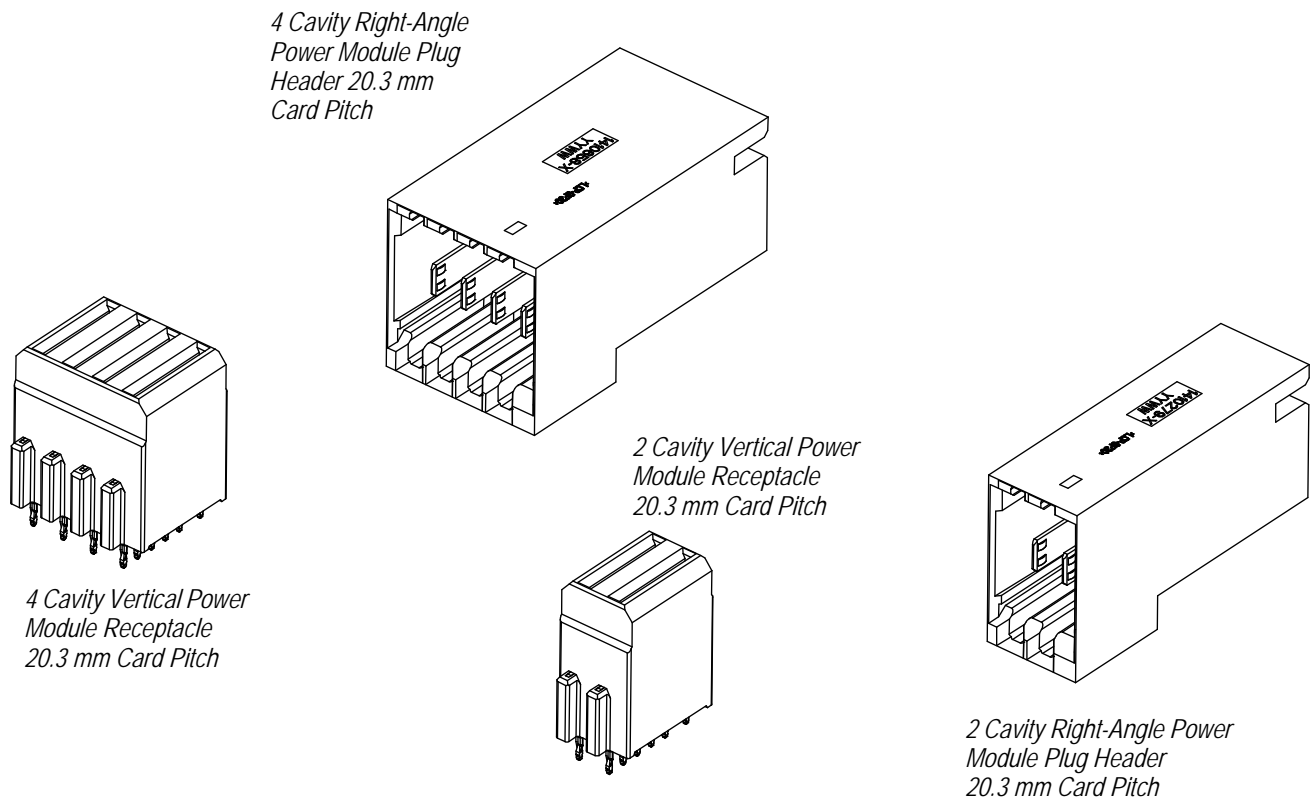

Figure 1
MULTIGIG RT Power Modules are available in vertical receptacles (backplane application), and right-angle plug headers (daughtercard application) as shown in Figure 1. Modules have 2 or 4 contact positions with 20.3 mm daughtercard spacing. Header contacts are available in 3 lengths for different levels of sequencing. All modules have ACTION PIN* press-fit contacts eliminating the need for soldering. Modules are polarized to ensure correct orientation on the printed circuit (pc) board, and for connector mating. Guide pins and modules should be used for primary alignment when needed. MULTIGIG RT Power Modules provide secondary alignment. Power Modules are placed on the pc board by manually operated or automatic machines.
When corresponding with TE Connectivity personnel, use the terminology provided in this specification to facilitate your inquiries for information. Basic terms and features of this product are provided in Figure 1.
- Deleted obsolete product artwork and related information in Figures 1 and 6